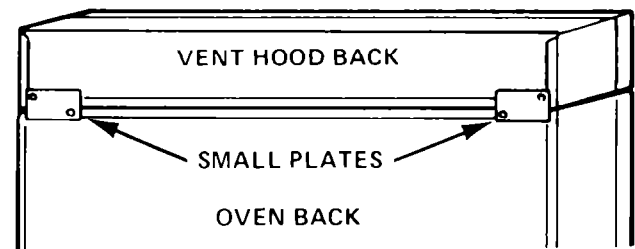

FIGURE 3
5. Loosen the screws holding the two small plates on the back of the vent hood. See Figure 3. Rotate the plates until the lower holes line up with the adjacent screw holes in the oven back.